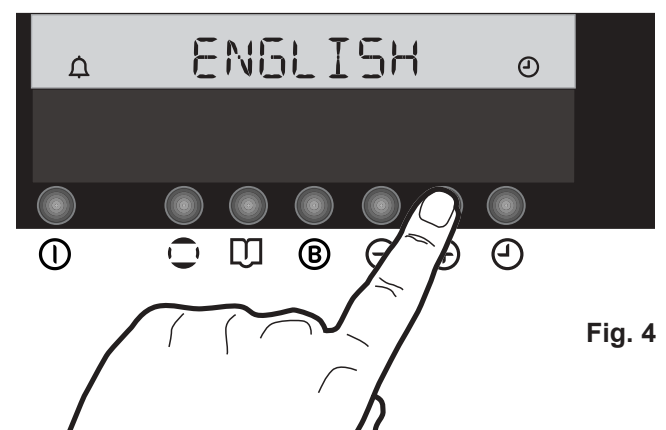

Fig. 4
2. Within 5 seconds, press button ▶ to select your language (Fig. 4).